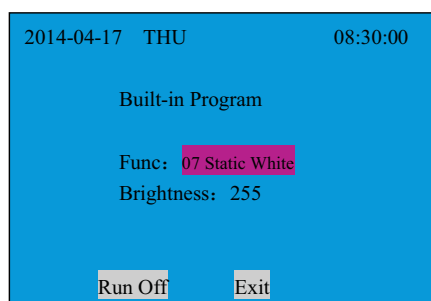

Figure D. 1
1. Play one of the built-in functions and online control out fixtures connected to this controller (Figure D.1).